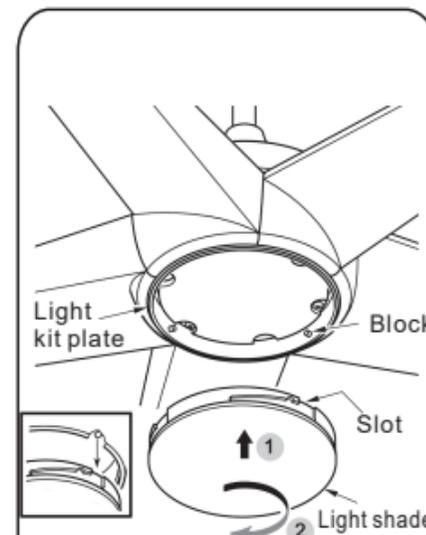

Fig.25
Step 6: Align the slot of the light shade with the raised dimple on the light kit plate and turn it clockwise until it stops.(Fig. 25)